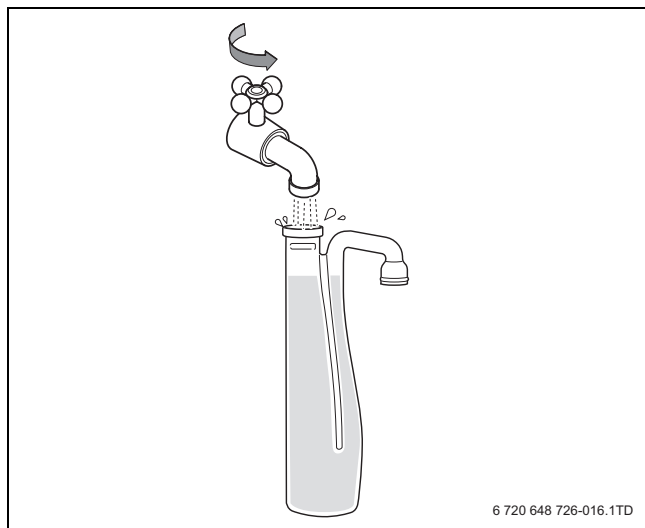

Fig. 16 Filling the condensate trap with water
- ▶ Fill the condensate trap (supplied with the boiler) with water (→ fig. 16).